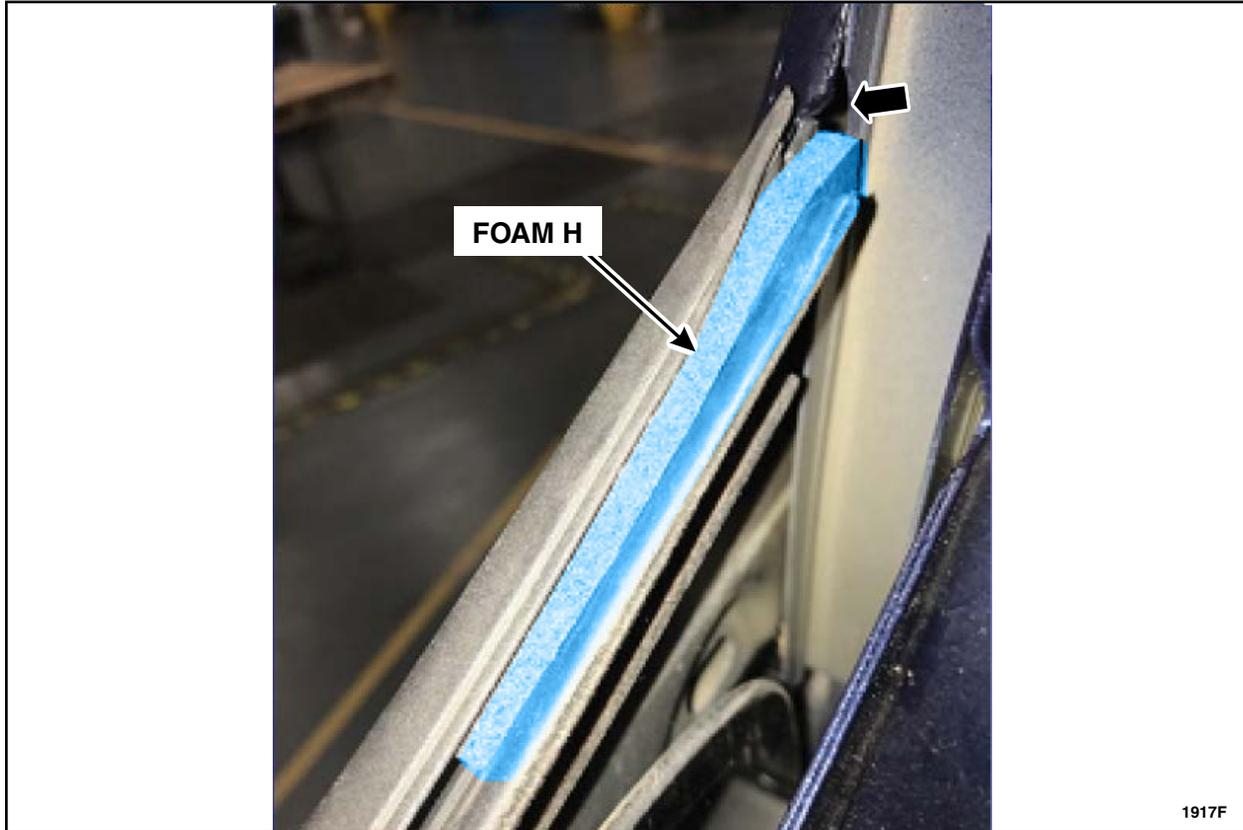

FIGURE 44
14. Install Foam H to the C-pillar end of the outer belt moulding. See Figure 44.